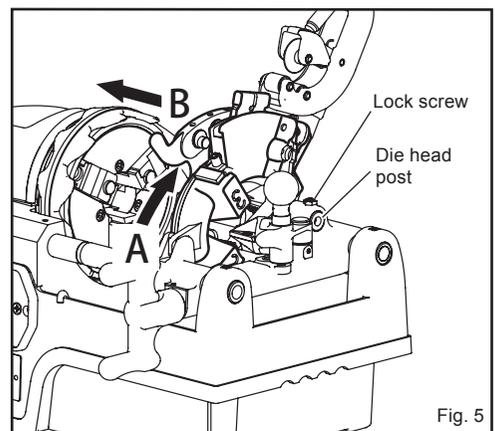

Fig. 5
## 4. Attaching and removing the die head (Fig. 5)
- (1) Attach the die head that matches the size of pipe to be threaded. (Fig. 5)
- (2) Align the die head post with the carriage fitting hole, and push it until it contacts the carriage while moving the die head up and down a little.
- (3) Lower the die head and check it is positioned correctly.